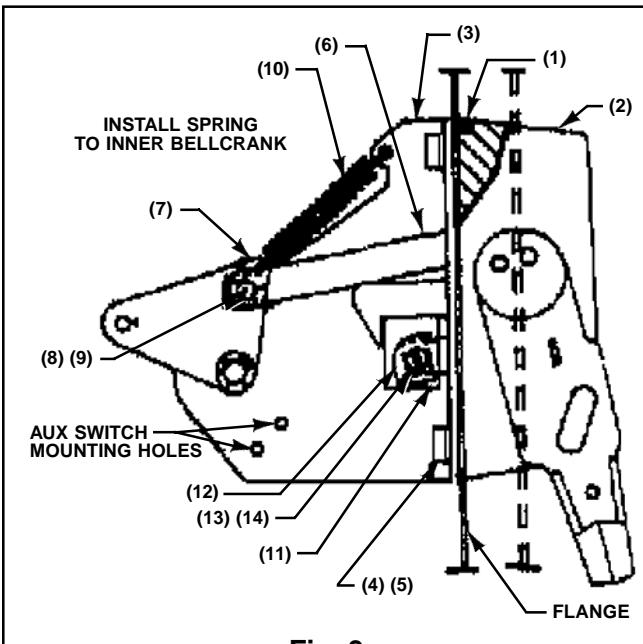

Fig. 3
2. INSTALLATION HANDLE AND FRAME ASSEMBLIES (see figure 3)
- Secure gasket (1) into groove of handle assembly (2). Mount handle assembly (2) and frame assembly (3) to enclosure flange using two $1/4$ -20 X $3/4$ socket head cap screws (4) and $1/4$ lockwashers (5). Tighten screws (4) to 75 in-lbs.
- Attach link (6) to bellcrank (7) using the $5/16$ dia. X $5/8$ grooved pin (8). Secure pin (8) using the two $5/16$ E-type retaining rings (9).
- (Cat. No.'s FDFBER(4) and FDFBEL(4) only) Attach extension spring (10) to frame (3) and to inner bellcrank (7).
- Attach the interlock lever extension (11) to the interlock lever (12) and secure with $#8$ -32 X $3/8$ screw (13) and $#8$ helical lockwasher (14). Tighten screw to 25 in-lb.